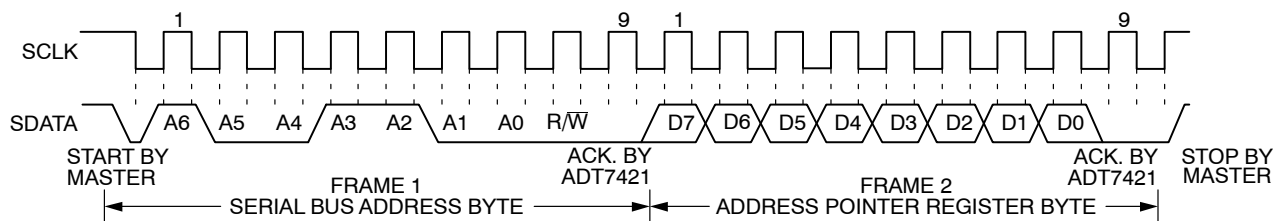

Figure 11. Writing to the Address Pointer Register Only
1. If the address pointer register value of the ADT7421 is unknown or not the desired value, it is first necessary to set it to the correct value before data can be read from the desired data register. This is done by writing to the ADT7421 as before, but only the data byte containing the register read address is sent, because data is not to be written to the register (see Figure 11).
2. If the address pointer register is known to be at the desired address, data can be read from the corresponding data register without first writing to the address pointer register and the bus transaction shown in Figure 11 can be omitted.